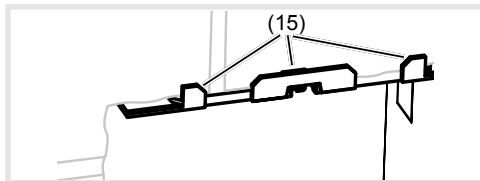

Figure 4: Installation position of fastening elements (15) Support bracket of the fastening elements
I The support bracket (15) of the fastening elements must be located on the wall surface (Figure 4).